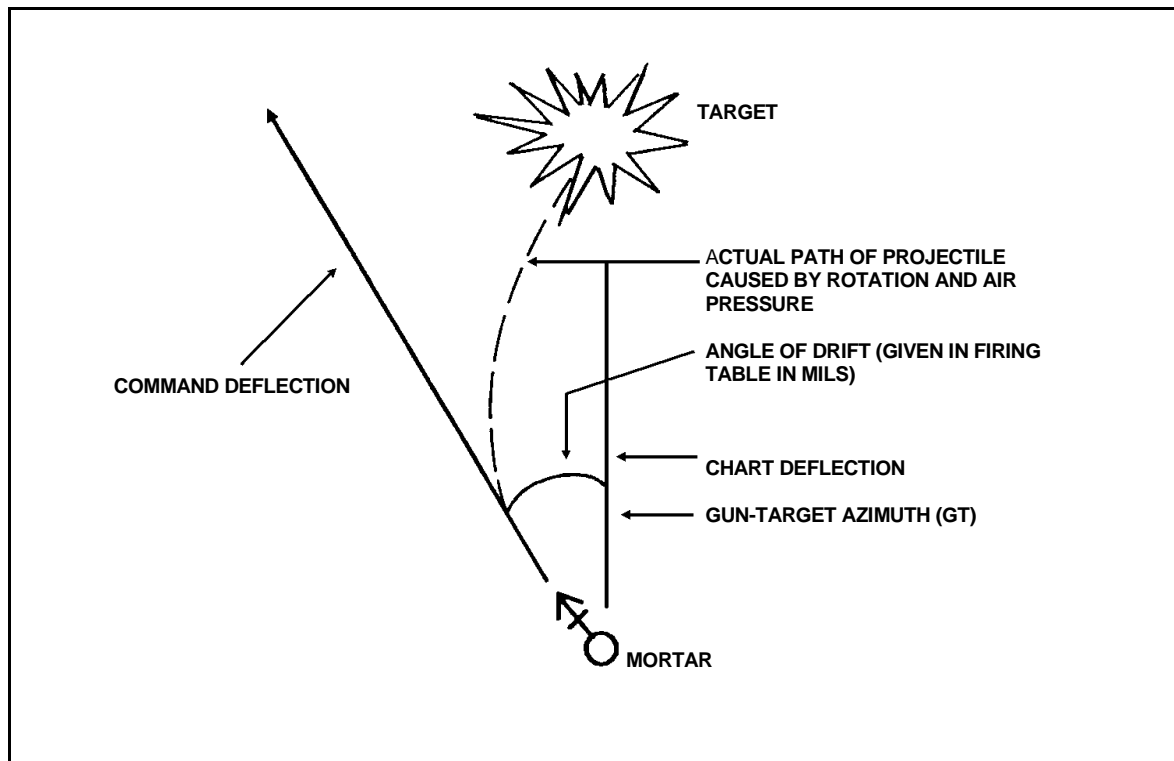

Figure 2-3. Drift.
(1) The spin initially imparted to the 4.2-inch mortar projectile causes drift (Figure 2-3). This characteristic has an effect on trajectory that must be considered when aiming.
(2) A trajectory in standard atmosphere is effected by the following factors: